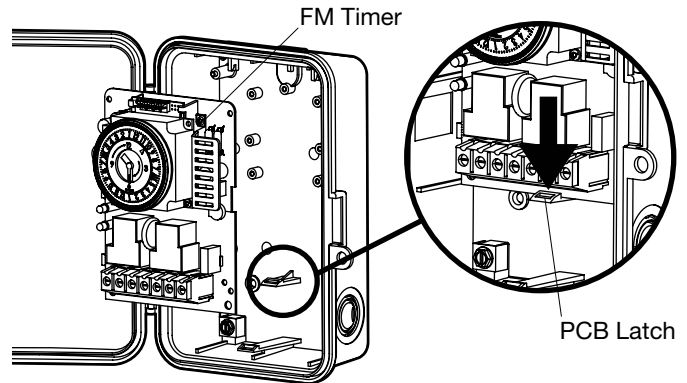

FIG. 4 Remove the FM Timer from the Housing
4. If needed, remove the timer mechanism by releasing the PCB Latch on the bottom. See FIG. 4.